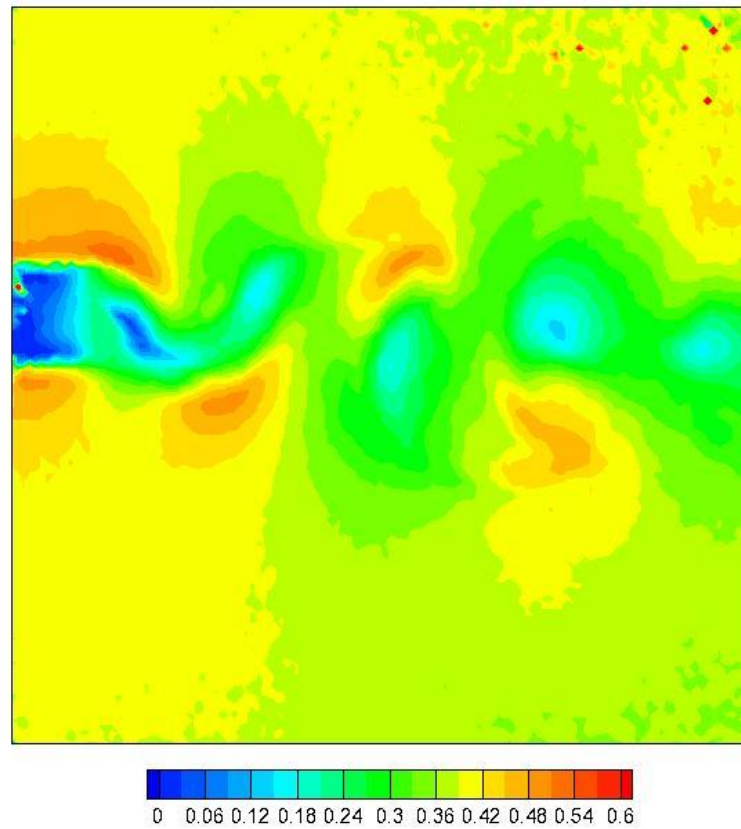

Figure 2. An instantaneous field of velocity. Experimental (PIV) data.
- Compare the velocity fields obtained by numerical simulation and PIV (See Fig. 2). What is similar and what differ? Try to find the reasons.